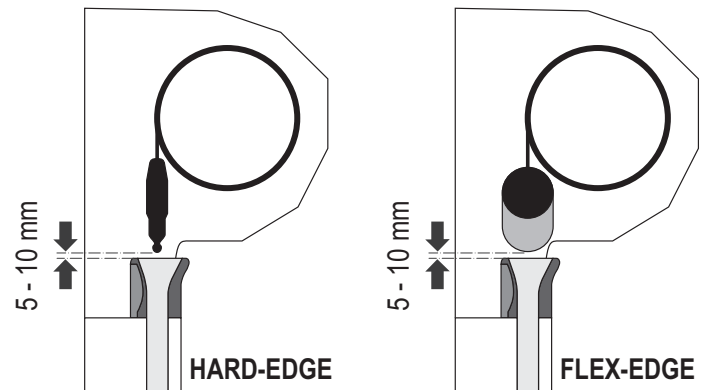

Figure 2
- the underside of the bottom beam guide piece comes to just above the funnel (approx. 5 to 10 mm). See figure 2.